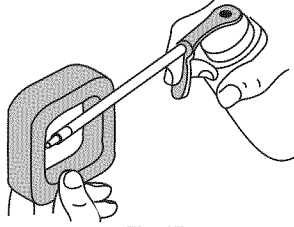

Fig. 27
- Apply enough clean SAE 30 motor oil to lightly coat the filter (Fig. 27).